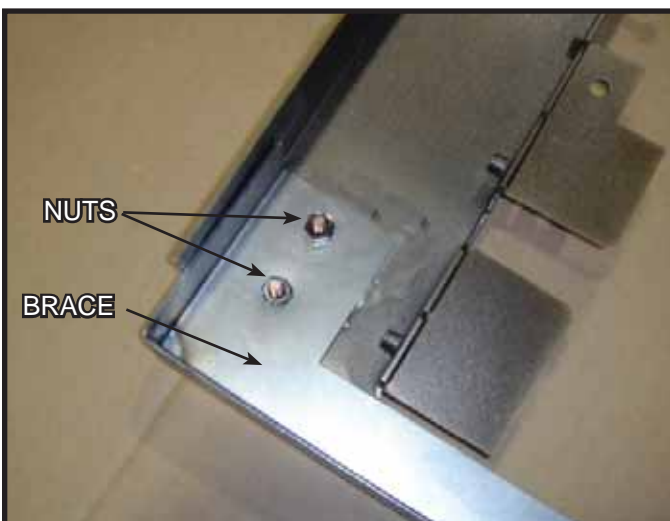
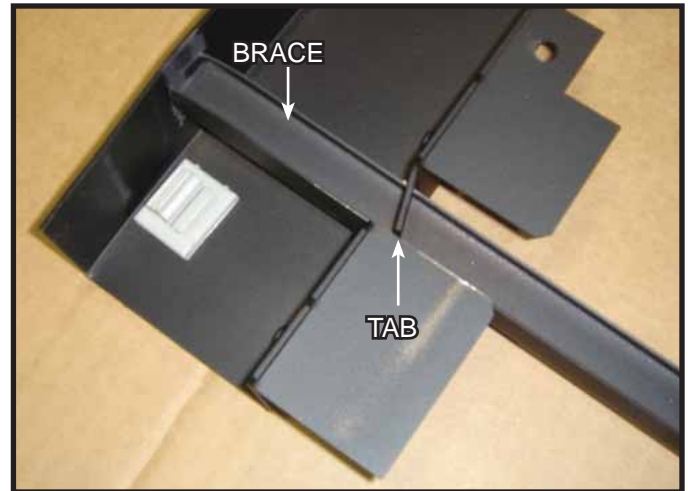

Figure 1. Remove Nuts and Brace.
Figure 2. Bend Tab to Allow for Removal of Brace.
1. Remove the metal shipping brace that spans across the bottom of the surround. The method of brace removal varies depending on model of surround. Either remove the four nuts, two on each side, as shown in Figure 1 or bend the one tab as shown in Figure 2.